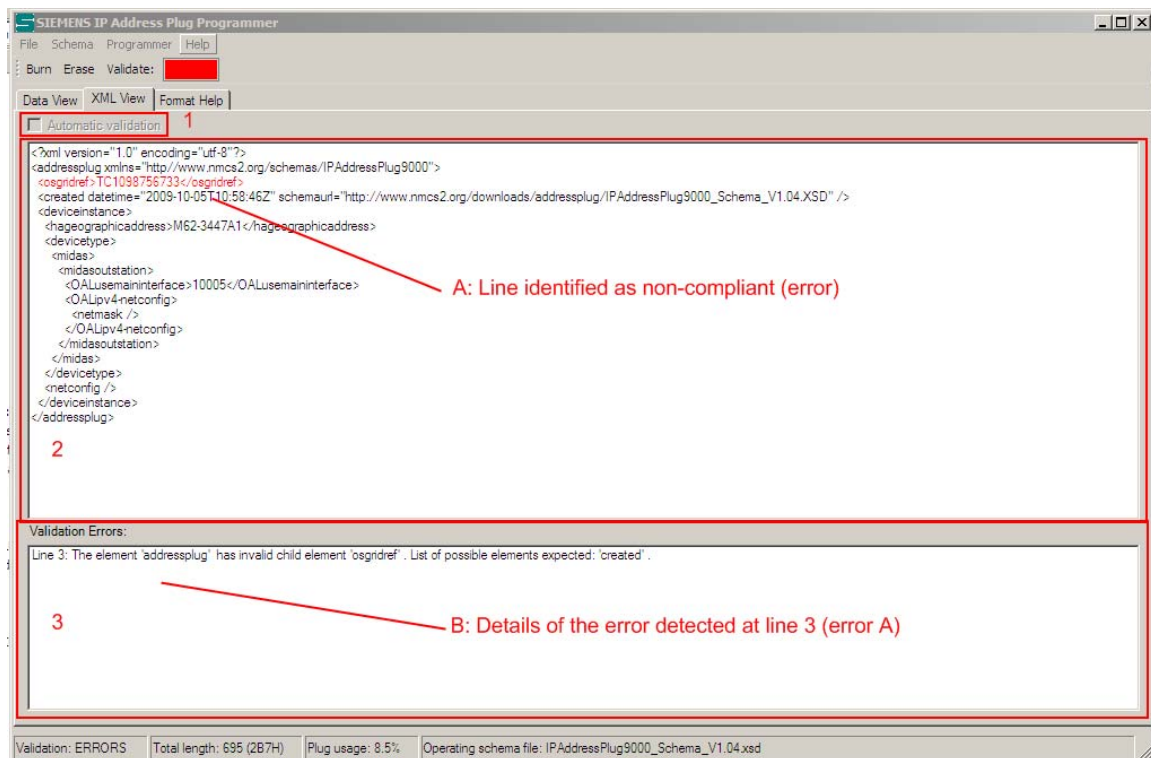

Figure 14 – XML View
Following entering the configuration data in the Data View the data can be converted to XML and any validation errors observed in the XML view, as shown in Figure 14.
- Switching to the XML view, the configuration data is converted, validated and displayed as XML in highlighted section 2 of Figure 14. The approximate locations of any errors are highlighted in red.
Following enabling of advanced features the XML contained in the XML View (Figure 14) may be edited manually. Where manual edits are made, be aware of creating incompatible XML configuration data which may not then transfer back to the Data View.
Whilst editing the Xml text, automatic validation may be turned on by checking the box shown as highlighted section 1 in Figure 14. With this enabled, the validation process will be completed and the error list updated after each edit.